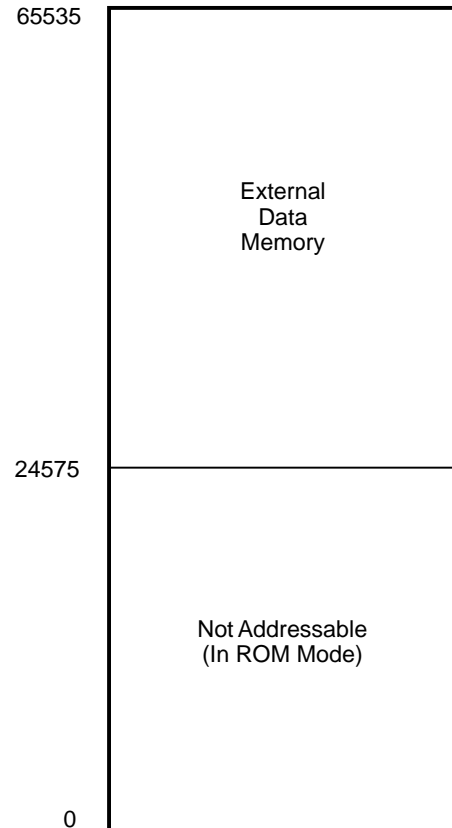

Figure 18. Data Memory Map
**Data Memory (/DM).** In ROM Mode, the Z8 can address up to 40 KB of external data memory beginning at location 24576 (Figure 18). In ROMless mode, the Z8 can address the full 64 KB of external data memory beginning at location 12. External data memory can be included with, or separated from, the external program memory space. /DM, an optional I/O function that can be programmed to appear on Port 34, is used to distinguish between data and program memory space. The state of the /DM signal is controlled by the type of instruction being executed. An LDC opcode references PROGRAM (/DM inactive) memory, and an LDE instruction references data (/DM active Low) memory (Figure 18).